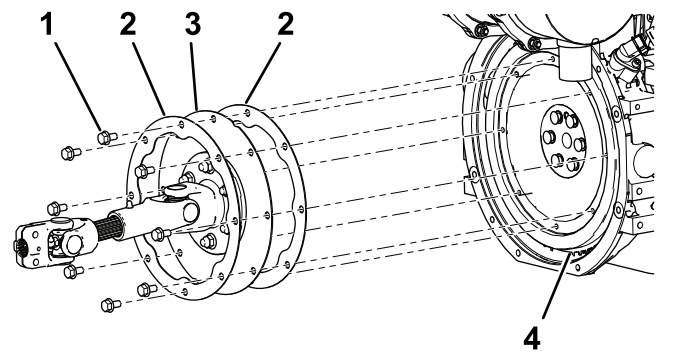

Figure 4
- Place a backup ring on each side of the large end of the new driveshaft (Figure 4).
- Align the holes in the large end of the new driveshaft and the backup rings to the holes in the engine flywheel (Figure 4).
- Apply medium-strength removable thread-locking compound to the threads of the 8 shorter flange-head cap screws provided (Figure 4).
- Secure the driveshaft and the backup rings to the flywheel with the 8 flange-head cap screws provided (Figure 4).